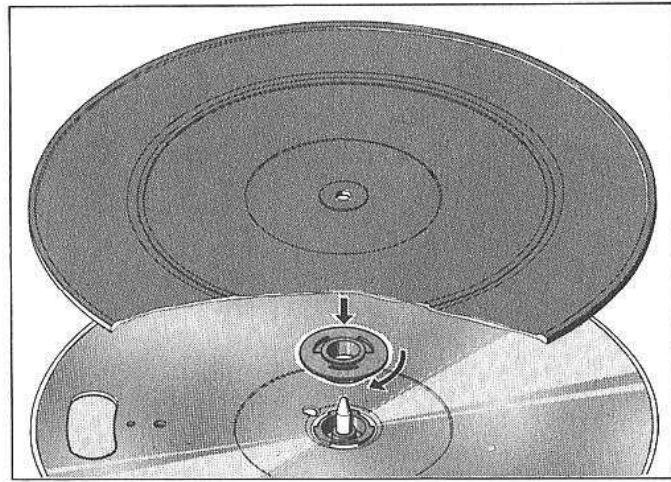

Fig. 4
- Insert the mounting washer, push down slightly and rotate approx. 60° in a clockwise direction (fig. 4).